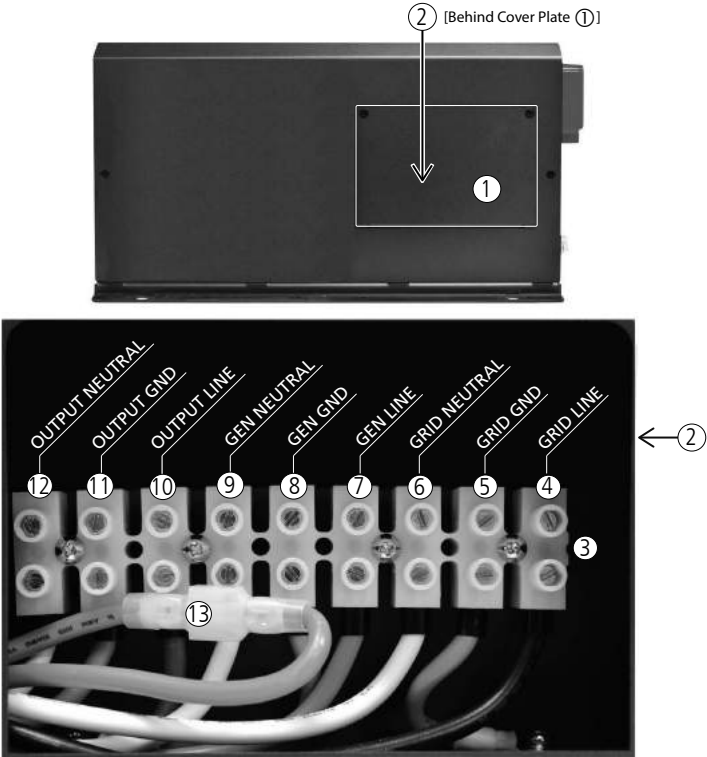

Fig 3.9 AC Input and Output
AC side layout and connection arrangement are shown in Fig 3.9.
- **Disabling Neutral to Ground Bond:** In some applications, the Output Neutral may be required to remain isolated from chassis/Ground at all times. For this, automatic Output Neutral to chassis Ground bond can be disabled by disconnecting the Male/Female Disconnect (13, Fig 3.9) located in the AC Wiring Compartment.
The AC input and output supply connections are located in a pocket protected by a cover with a removable front plate (1,2 Fig 3.9). Three 27.8mm / 1¹/₃₂” diameter holes (10A to 10C, Fig 2.1) have been provided for cable / conduit entry. Remove the caps covering the holes and install appropriate ¾” Trade Size Fitting for routing the AC input and output wires/conduits.
Screw down type of terminal block (3, Fig 3.9) is used for connecting the wires. The hole size for wire entry is 6 mm and set screw size is M4. It can accommodate conductors with solid or multi-stranded wire size range of AWG #6 to AWG #20 (13.3 mm² to 0.5mm²).